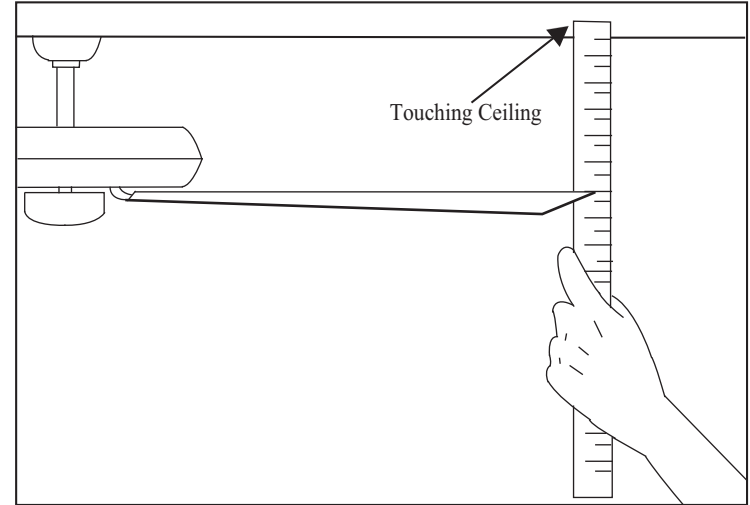

Figure 11
2. Most fan wobble problems are caused when blade levels are unequal. Check this level by selecting a point on the ceiling above the tip of one of the blades. Measure from a point on the center of each blade to the point on the ceiling. Measure this distance as shown in Figure 11. Rotate the fan until the next blade is positioned for measurement. Repeat for each blade. Measurements deviation should be within $1/8"$. Run the fan for 10 Minutes.